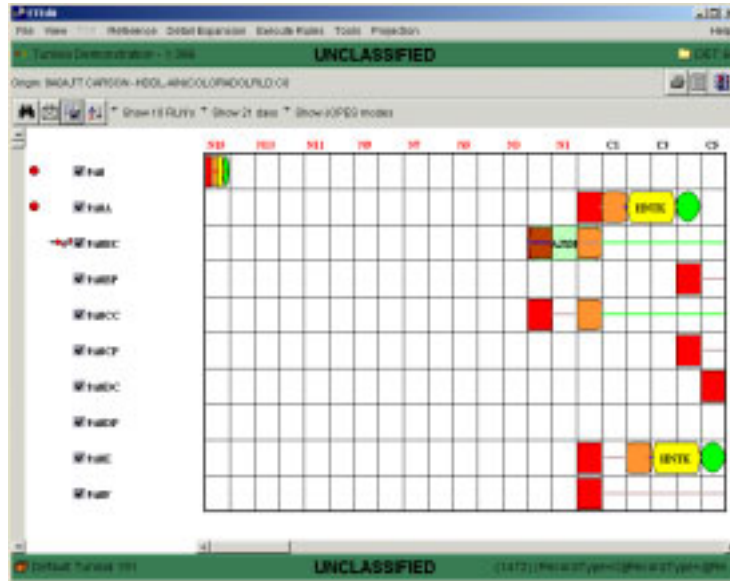

Figure 5.110 ETEdit (Main) Window (Select Force Module)
- To display the RLN movements for this force module, click OK. The Select Force Module window closes, and the ETEdit (main) window is displayed (Figure 5.110).